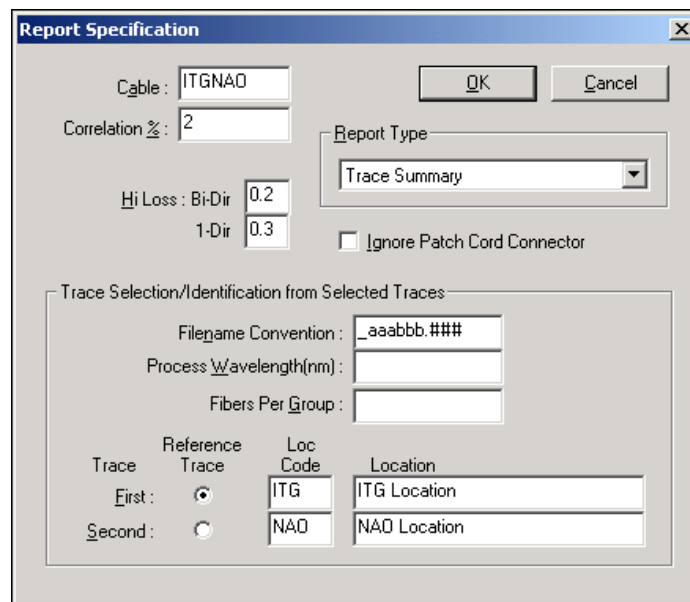

Figure 10-2: Report Specification Dialog Box
7. Select the **Report** button, then click **OK**. The Report Specification Dialog Box shown in Figure 10-2 will be displayed.